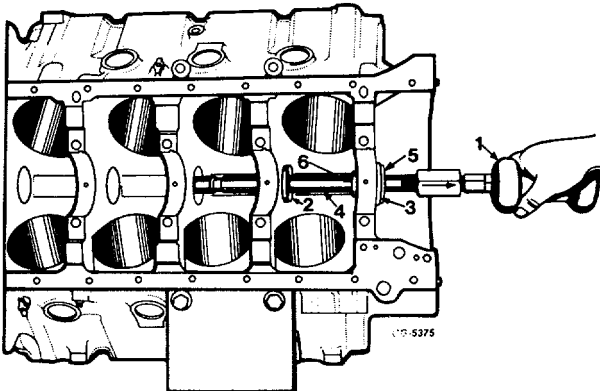

Fig. 82 Removing Front Bearing
10. Remove the "C" washer and use the second adapter as a pilot. Pull the front bearing from the crankcase, Figure 82.